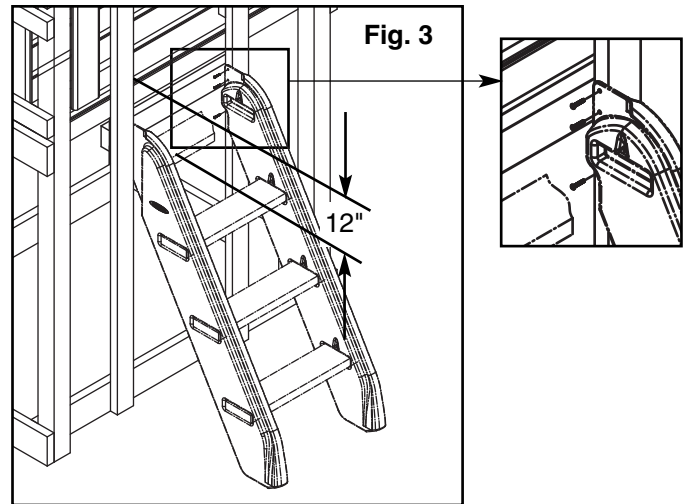

Fig. 3
4. Position the Climbing Steps Assembly into the 21½" opening of your play deck so that the top surface of the top step is 12" from the top surface of your play deck (48" from the ground). Secure the Climbing Step Assembly to the play deck using three #14 x 1¼" pan head screws on each side as shown. **(Fig. 3)**